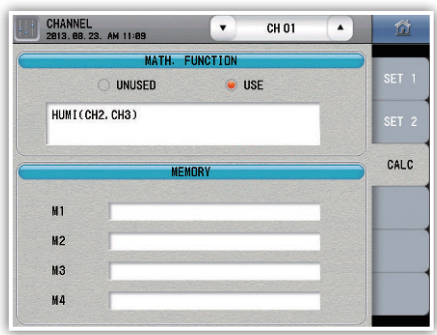

Fig. 43) Example of using the calculation formula 2
- (Fig. 43) is the example of the configuration as an example of receiving the temperature from the channel 2 and channel 3 as the dry bulb temperature and the wet bulb temperature, respectively.